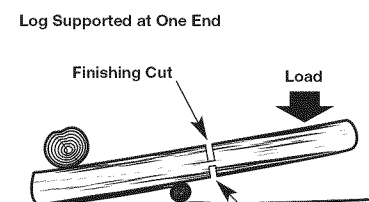

Fig. 23
- When the log is supported on one end (Fig. 23): First, cut from the bottom (underbuck) 1/3 of the way through the log to avoid splintering. Second, cut from above (overbuck) to meet the first cut and avoid pinching.